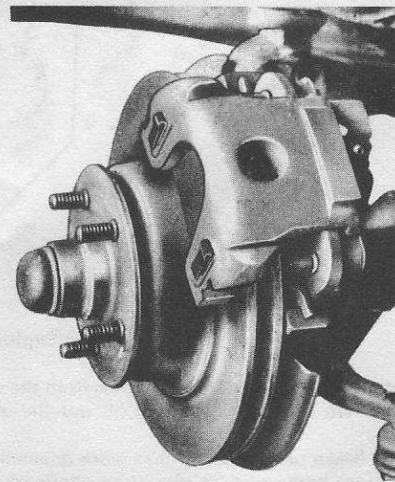

Fig. 9.5 Single-piston, floating caliper type disc brake (Sec. 7)
- 1 The optional disc brakes installed on 1968 through 1973 Mustangs are the single-piston floating caliper type (see Fig. 9.5).